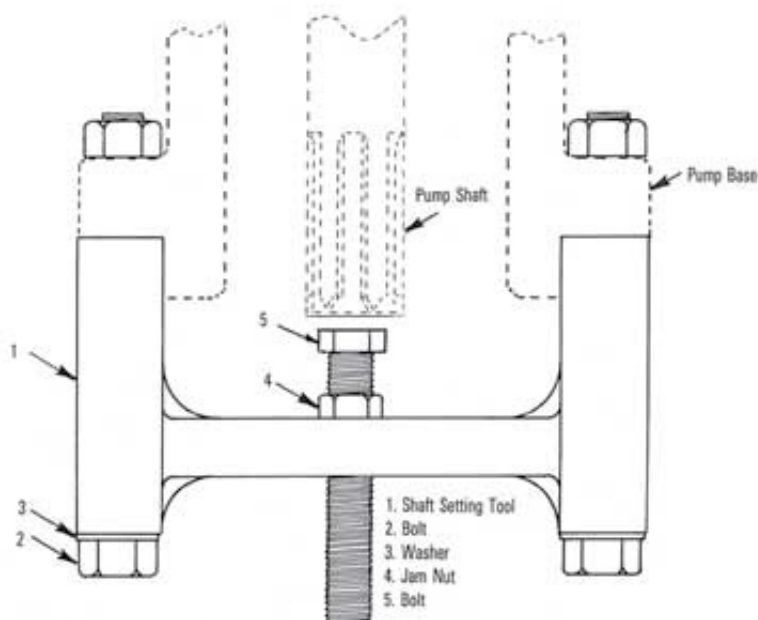

Figure 4-43: Thrust setting tool on the pump base
9. Install the thrust setting tool on the pump base as shown in Figure 4-43. When doing so, reverse the attaching bolts, not the tool. The center bolt head must remain next to the bottom of the pump/AGH shaft.